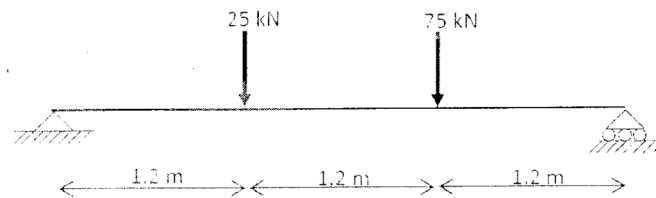

Figure 6
11. A simply supported beam is loaded as shown in Figure 6. Find: